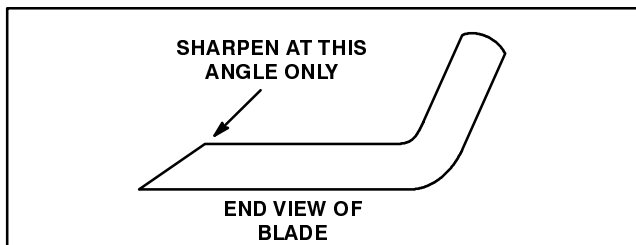

Figure 33
3. Examine cutting edges of all blades. Sharpen the cutting edges if they are dull or nicked. Sharpen only the top of the cutting edge and maintain the original cutting angle to make sure of sharpness (Fig. 33). The blade will remain balanced if same amount of metal is removed from both cutting edges.